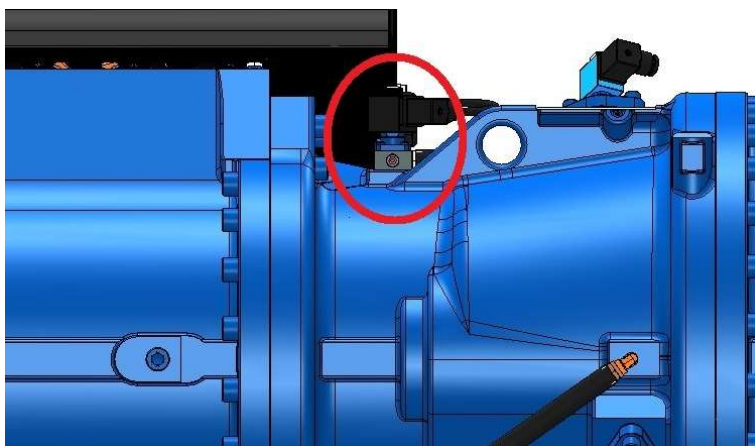

Figure 5E: solenoid valve of the inverter cooling circuit
- The level must be visible between the 2 oil sight-glasses (see Figure 5E);